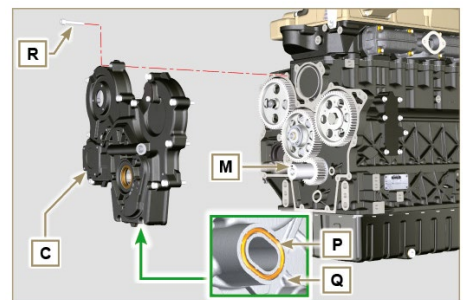

Fig 9.76
2. Make sure that the key **M** (**Fig. 9.76**) is inserted properly on the crankshaft and that it is facing upwards.